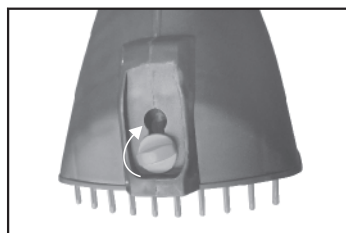

Fig. 5B
2. Lock the knob by rotating 90° clockwise. (Fig. 5B)